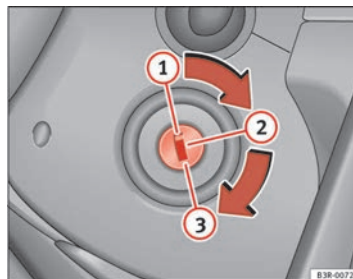

Fig. 139 Ignition key positions
- Turn the ignition key to position ① ⇒ page 166, fig. 139.